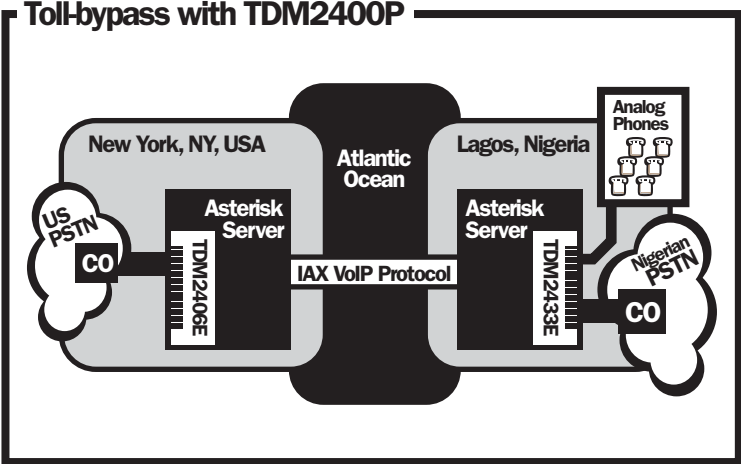

Figure 3: Sample Application - Toll-bypass
- Figure 3: Sample Application - Toll-bypass 17